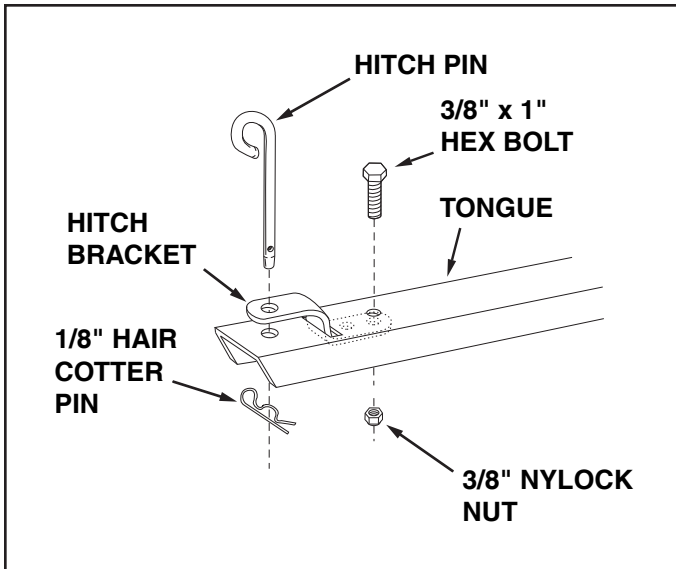

FIGURE 13
20. Assemble the end of the hitch bracket (two holes) down through the slot at the front of the drawbar tongue. Fasten it to the tongue using the 3/8" x 1" hex bolt, 3/8" lock washer and 3/8" nylock nut. **Tighten.** See figure 13.
21. Assemble the hitch pin through the hitch bracket and the tongue and secure with the 1/8" hair cotter pin. See figure 13.